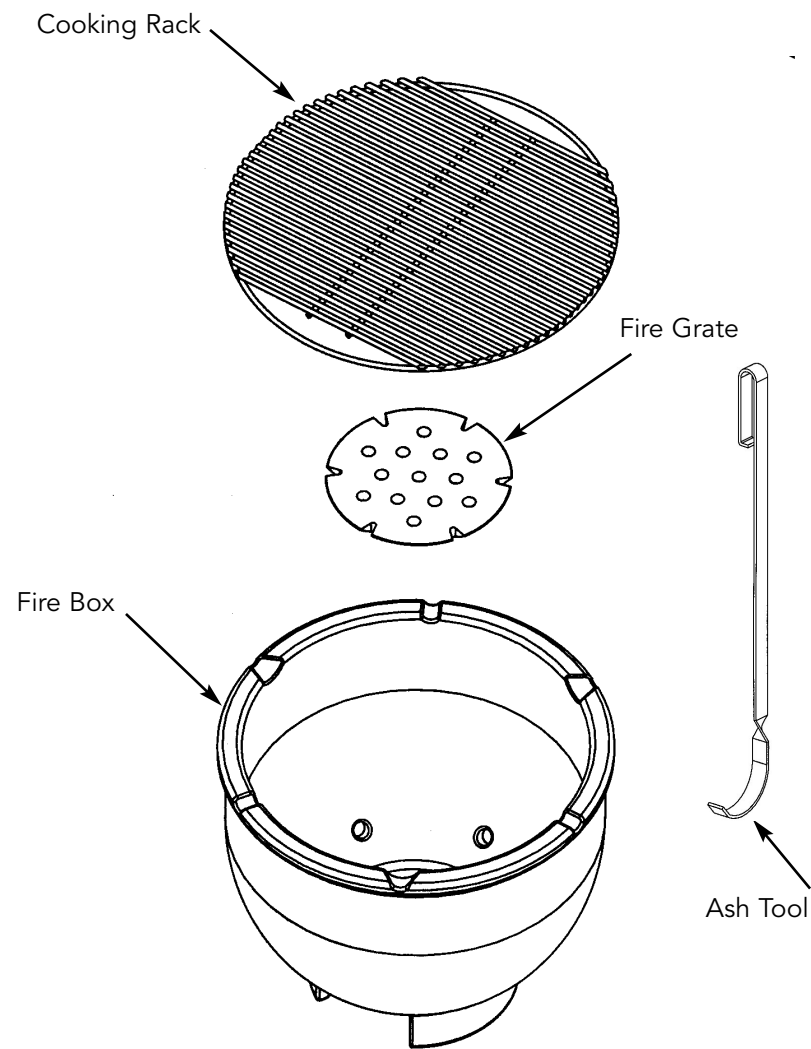

Figure 1
2. Remove all parts within the cooker in order to remove any styrofoam or cardboard packaging. (See Figure 1)